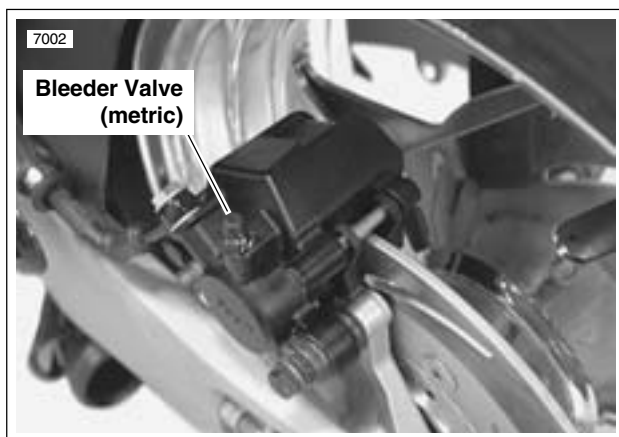

Figure 1-10. Rear Brake Bleeder Valve (Typical)
- b. Rear brake bleeder valve-see Figure 1-10.